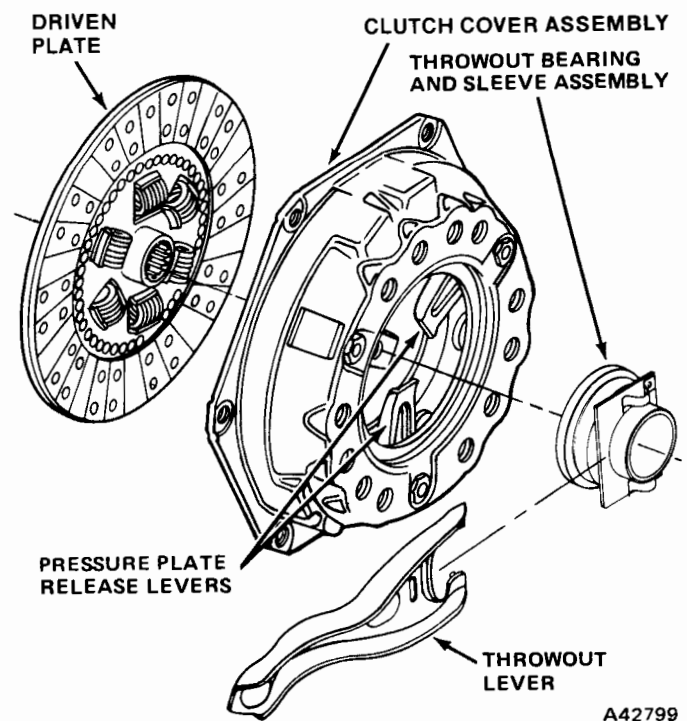

Fig. 5-9 Clutch Components—CJ Models
(1) Check clutch release lever height and correct if necessary.
(2) Install driven plate and loosely attach cover assembly to flywheel. Use Aligning Tool to install driven plate during installation. Use transmission clutch shaft if alignment tool is not available.
(3) Tighten cover attaching screws in rotation to prevent cover distortion.
(4) Install clutch housing, starter, and throwout bearing and sleeve assembly (fig. 5-9).